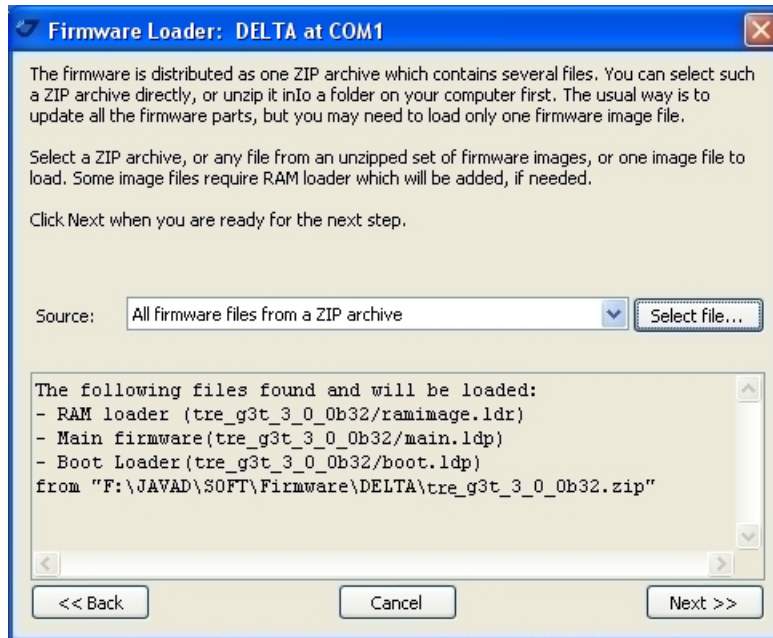

Figure 5-18. Files to load
7. Click *Next>>* to load new firmware (Figure 5-18).